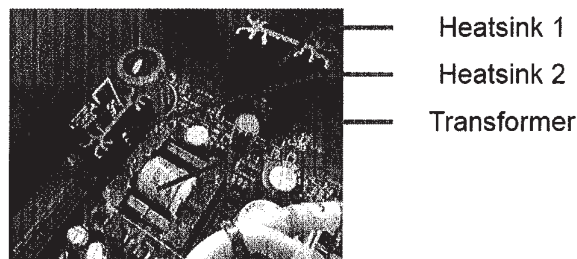

Figure A3.1: Transformer and heatsinks location
- 4) Voltmeter was used to measure the voltages on test points according to Figure A3.1. Each reading must be observed for ten seconds and must not fluctuate more than two volts.